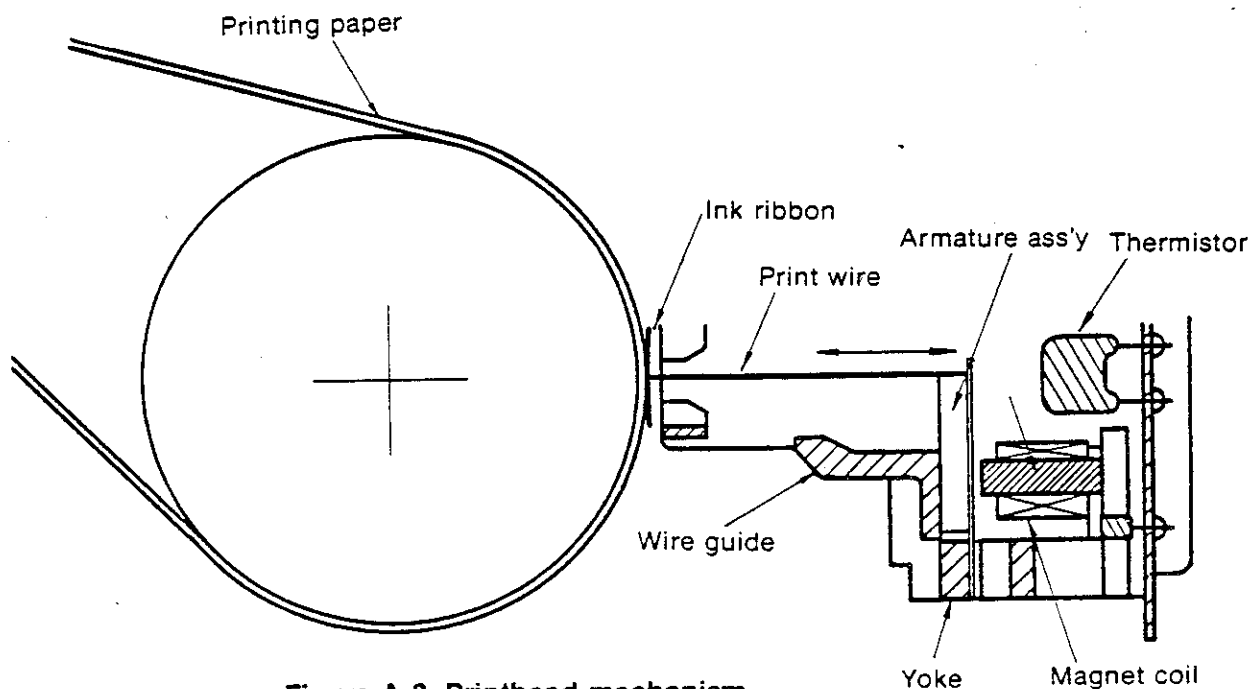

Figure A-3 Printhead mechanism
(1) Printhead operation (See Figure A-3)